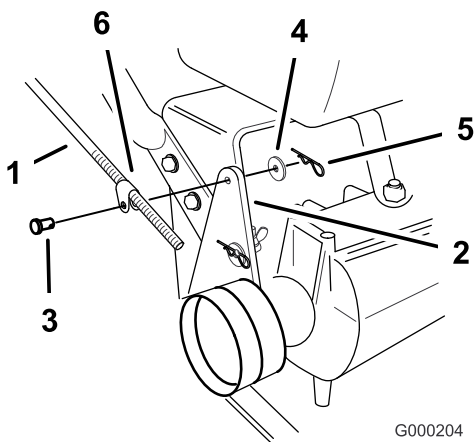

Figure 20
1. Remove hairpin cotter, washer and clevis pin securing control rod fitting to idler bracket (Figure 20).